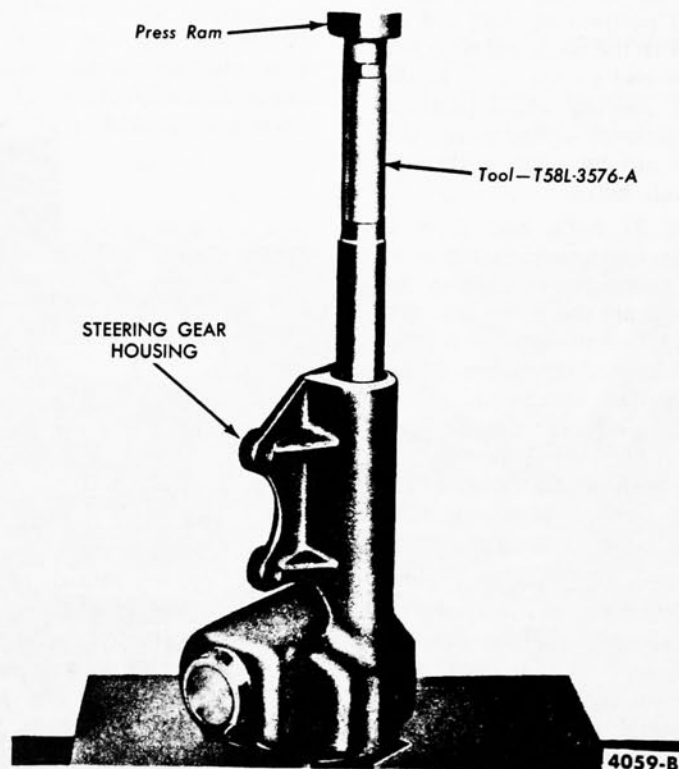

FIG. 7—Sector Shaft Bushing Removal
9. Press out both sector shaft bushing from the housing (Fig. 7). If the bushing in the housing cover is defective, replace the cover.